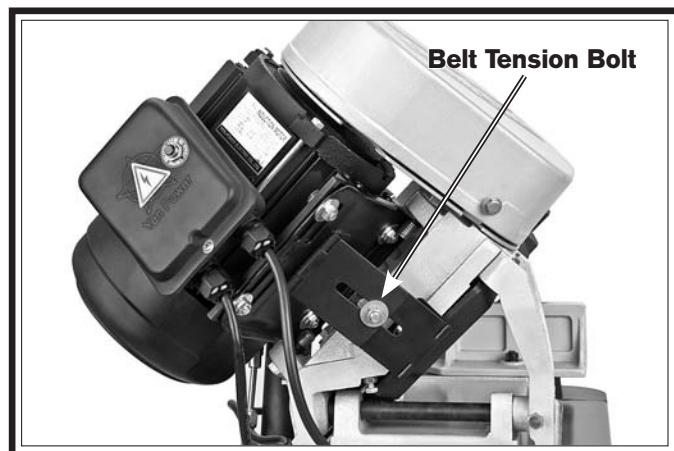

Figure 49. Motor tension bolt.
2. Open the belt cover, then loosen the belt tension bolt shown in **Figure 49** to allow the motor to pivot.